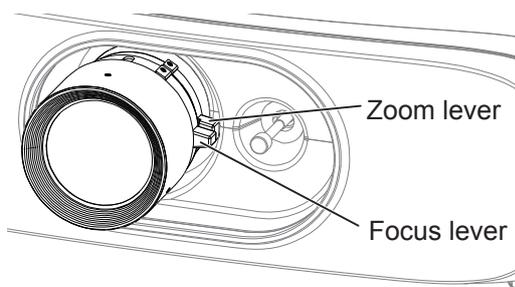

Fig. 2
- Adjust the zoom and focus. (Fig. 2)**